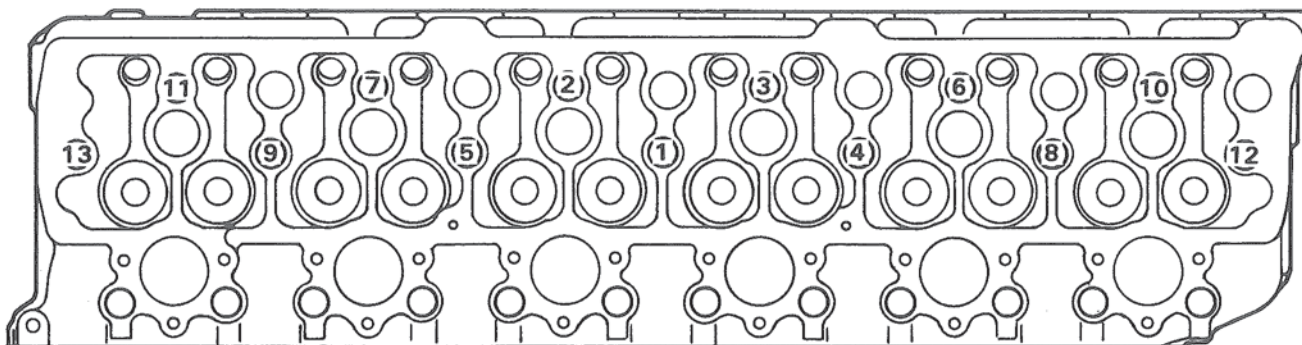

Figure 2. For Rocker Arm Removal Only.
3. Loosen bolts securing rocker shaft brackets to head. Follow sequence shown. Figure 2.